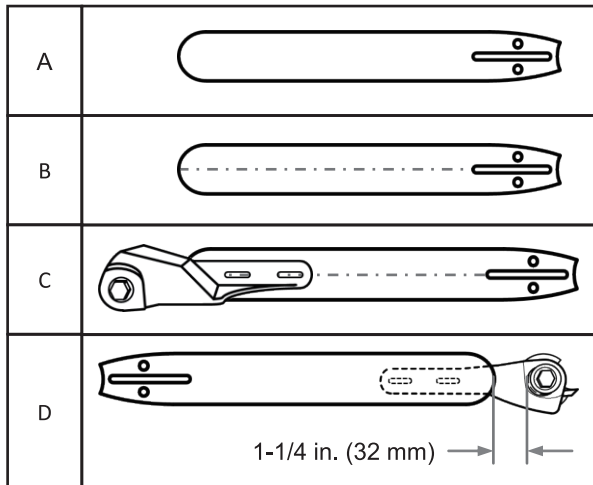

Fig. 2
1. Follow the instructions in your chainsaw manual to remove the chainsaw bar (Fig. 2 - A).
2. Place the bar on a flat surface. Use a straight-edge and awl to scribe a centerline down the length of the bar (Fig. 2 - B).
3. Place the attachment onto the bar and line up the center of the two slots on the Frame Body (#10) with the scribed line (Fig. 2 -C).
4. Ensure there is a gap of approximately 1-1/4 in. (32 mm) between the end of the bar and the Sprocket (#8) on the attachment as shown in Fig. 2-D)